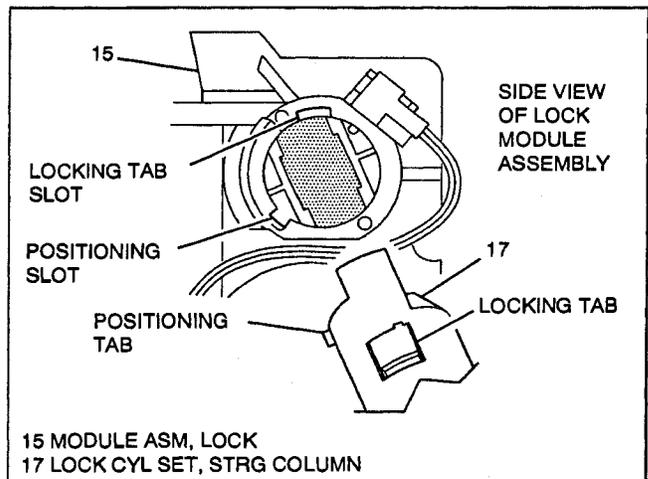

Figure 5 - Sector and Lock Cylinder Alignment Position
5. Upper shroud (10) and steering column lock cylinder set (17).
- A. Key installed in lock cylinder (17) and in "RUN" position.
- B. Ensure sector in lock module assembly (15) is in "RUN" position. (See Figure 5)
- C. Lock cylinder (17) to upper shroud (10).
- D. Line up locking tab and positioning tab with slots in lock module assembly (15) and push cylinder (17) into position.
6. Two torx head screws (14) to upper shroud (10).